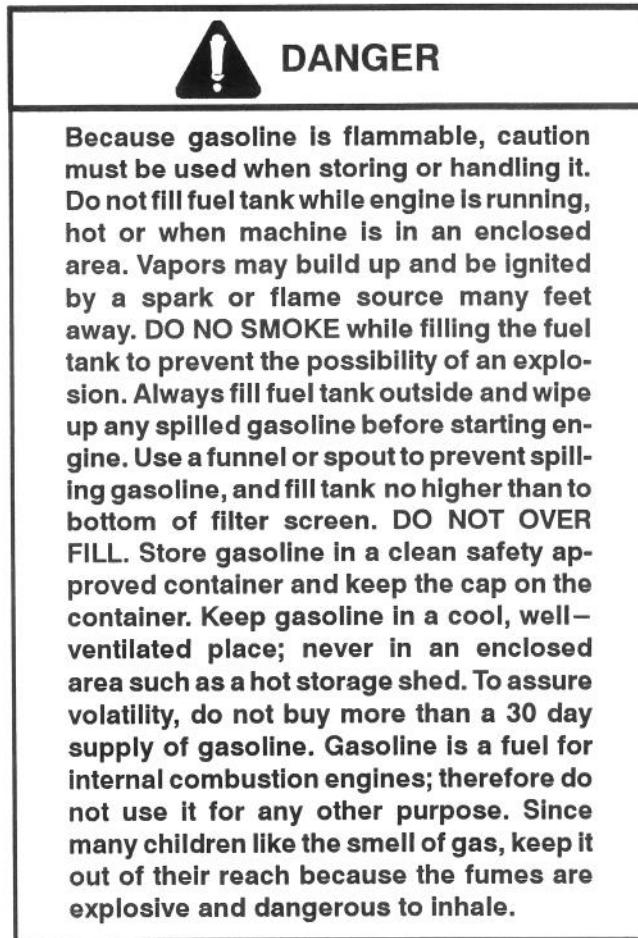

Figure 4
1. Clean around fuel tank cap and remove cap from tank (Fig. 4). Using unleaded gasoline, fill fuel tank no higher than to bottom of filter screen. **DO NOT OVER FILL.**